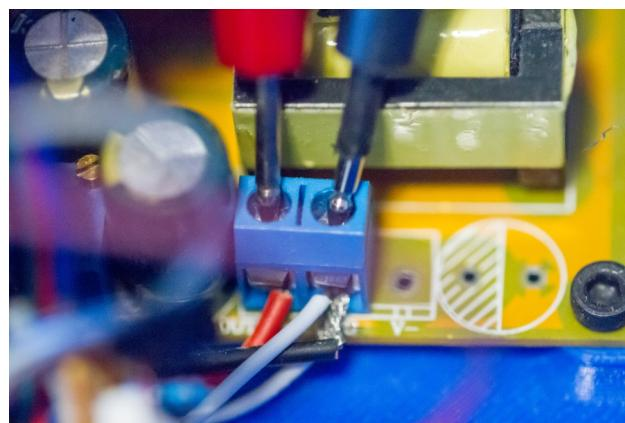

Figure 34: Output voltage from boost converter
39. Before calibrating the firmware, the first step is to set the capacitor voltage. Once you finished step 38, press the encoder button again. The **High-Voltage Boost Regulator** will turn on. **CAREFULLY** measure the output voltage as shown in figure 34 while adjusting the potentiometer on the converter. Adjust the voltage to the desired LED drive voltage (120 V recommended, anything higher is at your own risk).
44. Check that the **High-Voltage Boost Converter** is still set to the correct voltage (see Figure 34). It may have decreased slightly, go ahead and adjust to the correct voltage.